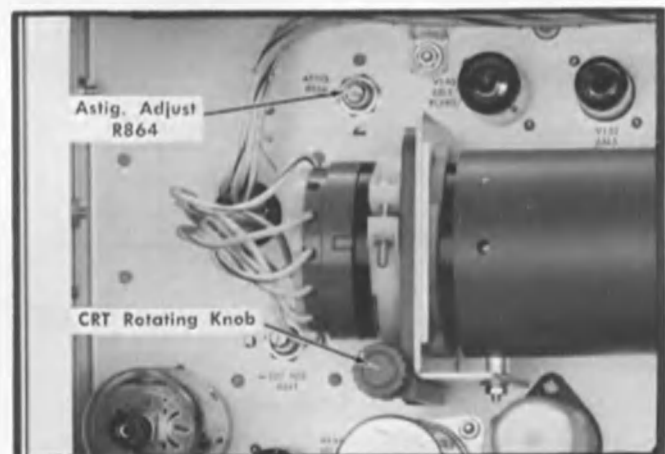

Fig. 6-9. CRT alignment and astigmatism adjustment control locations.
- f. Adjust ASTIG. R864 (Fig. 6-9) for as round a spot as possible.
8. Adjust CRT Horizontal Trace Alignment ①
- c. Adjust the CRT rotation knob (Fig. 6-9) until the trace is parallel to the center horizontal graticule line.